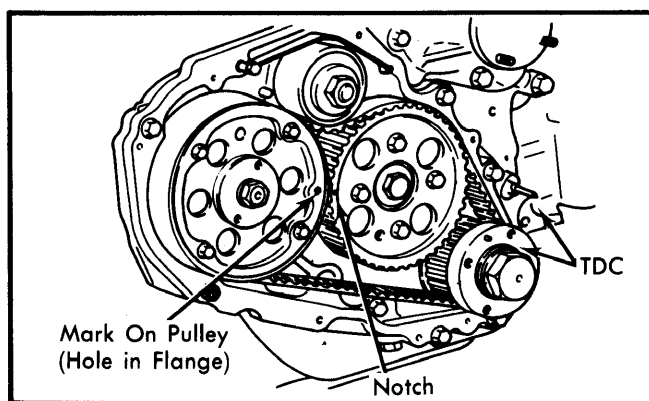

Fig. 10 LUV & P'UP Timing Belt Pulley Alignment
2) Align pulleys so marks are together. See Fig. 10. Install timing belt on crankshaft pulley, camshaft pulley and injection pump pulley in order. Position belt so slack is in area of idler pulley.
LUV & P'UP — 1) Check that notch in pump flange is in line with notch in front bracket. Turn engine to position No. 1 cylinder at TDC. Remove injection pump pulley cover (right half of timing belt cover) and see that timing marks are aligned. See Fig. 10.